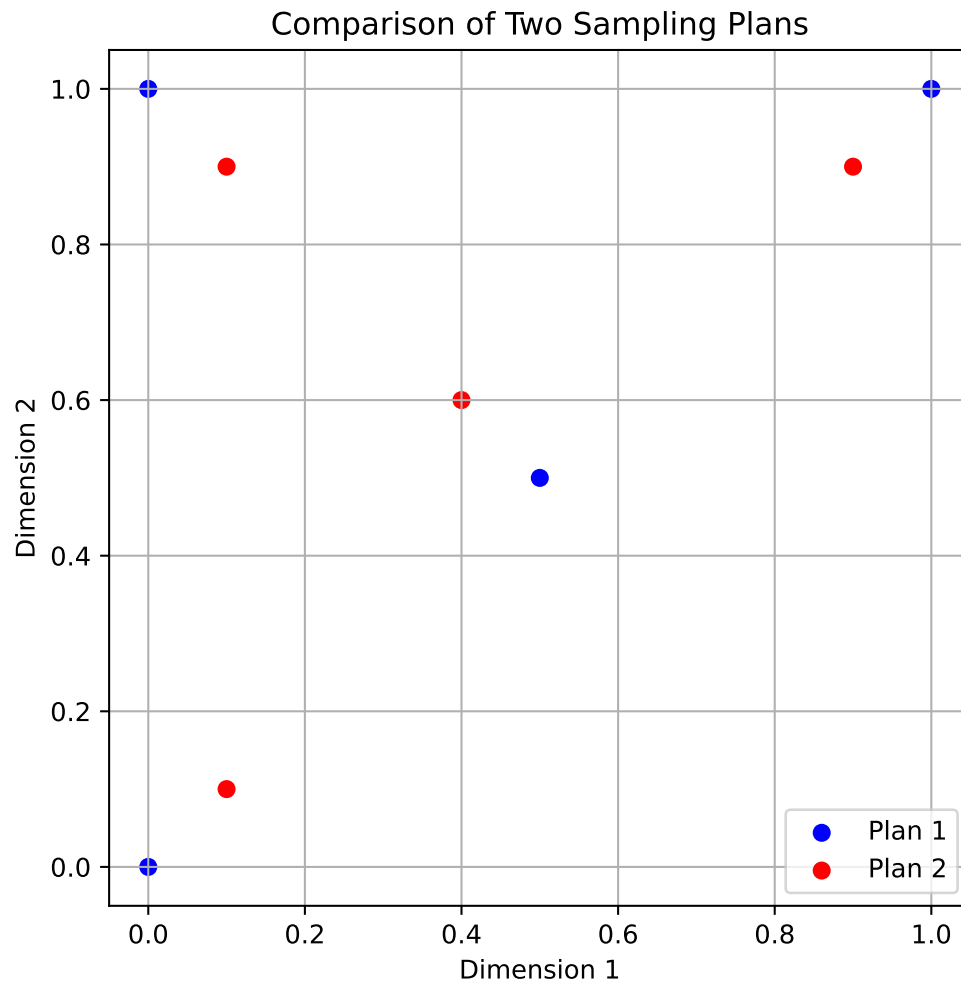

Figure 3.8.: Comparison of Two Sampling Plans
**Example 3.8** (The Function `mm`). We can use the `mm` function to compare two sampling plans. The following code creates two 3-point sampling plans in 2D (shown in Figure 3.8) and compares them using the Morris-Mitchell criterion: